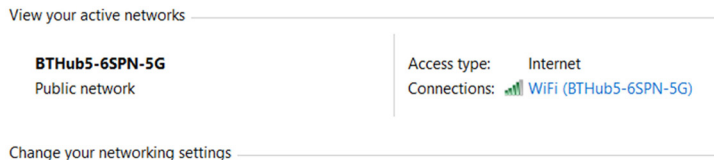

Figure 1.12 Click Internet
- Click **Internet** as shown in Figure 1.12.